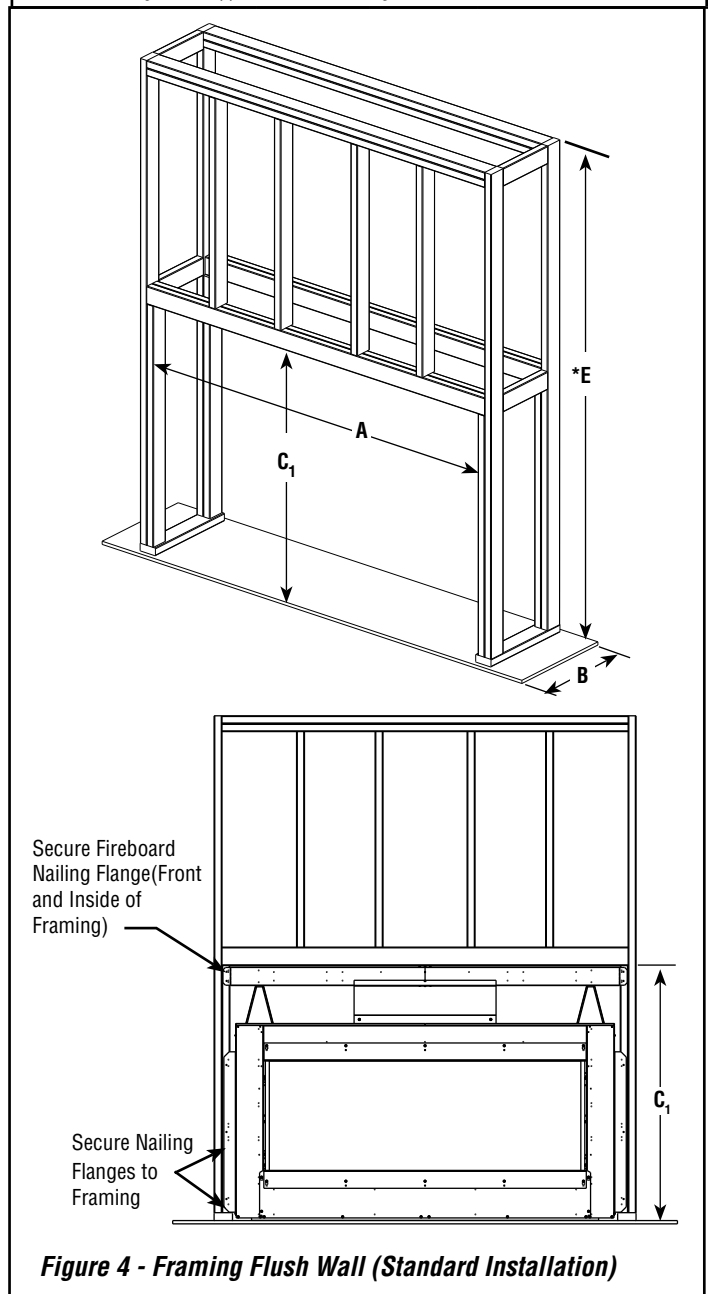

Figure 4 - Framing Flush Wall (Standard Installation)
3. Headers may be in direct contact with the top of the nailing flange, maintaining the 11" clearance to the fireplace top, but must not be supported by them or notched to fit around them after self supporting (see **Figure 4**). All construction above the fireplace must be self-supporting. DO NOT use the fireplace for structural support.